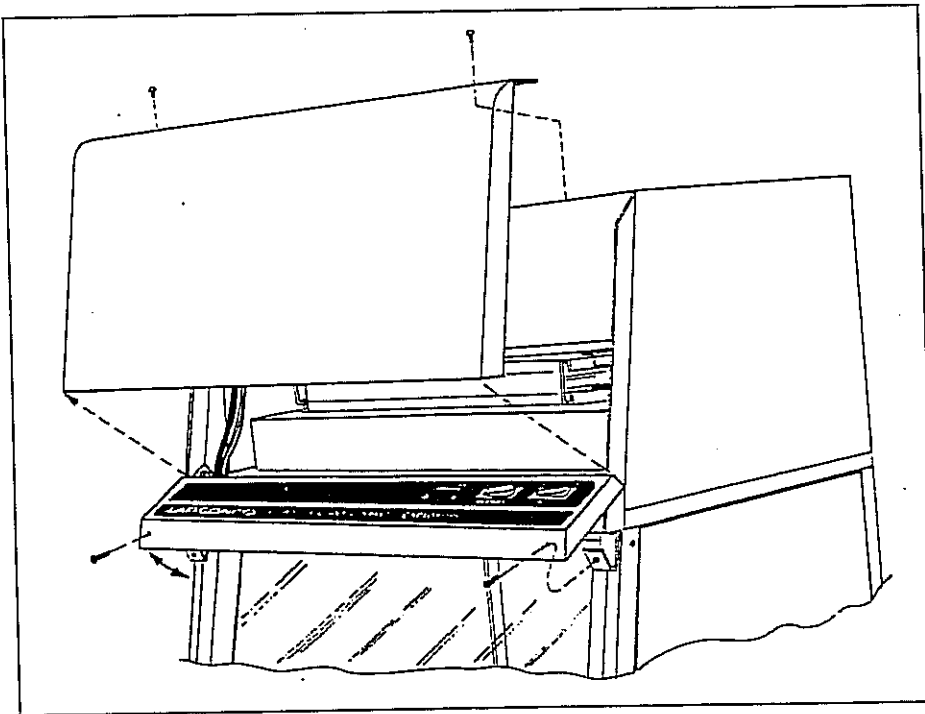

Figure 8
1. Locate the front dress panel, just above the control panel. Remove the two screws located on the top of the panel. Remove the panel by pulling it slightly upward and out, as shown in Figure 8.
2. Locate the control panel on the front of the cabinet, which has the filter indicator lights and switches. Remove the screws located on each lower end of the panel. Swing the panel upward for access to the fluorescent lamp as shown in Figure 8.